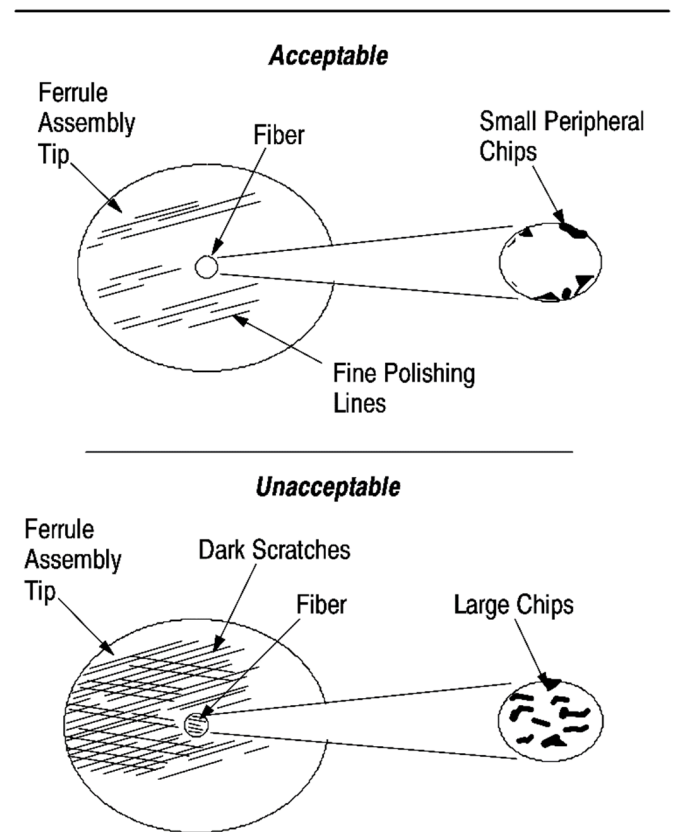

Figure 8
1. Using the microscope kit, inspect the ferrule assembly and fiber according to the following criteria (refer to Figure 8):